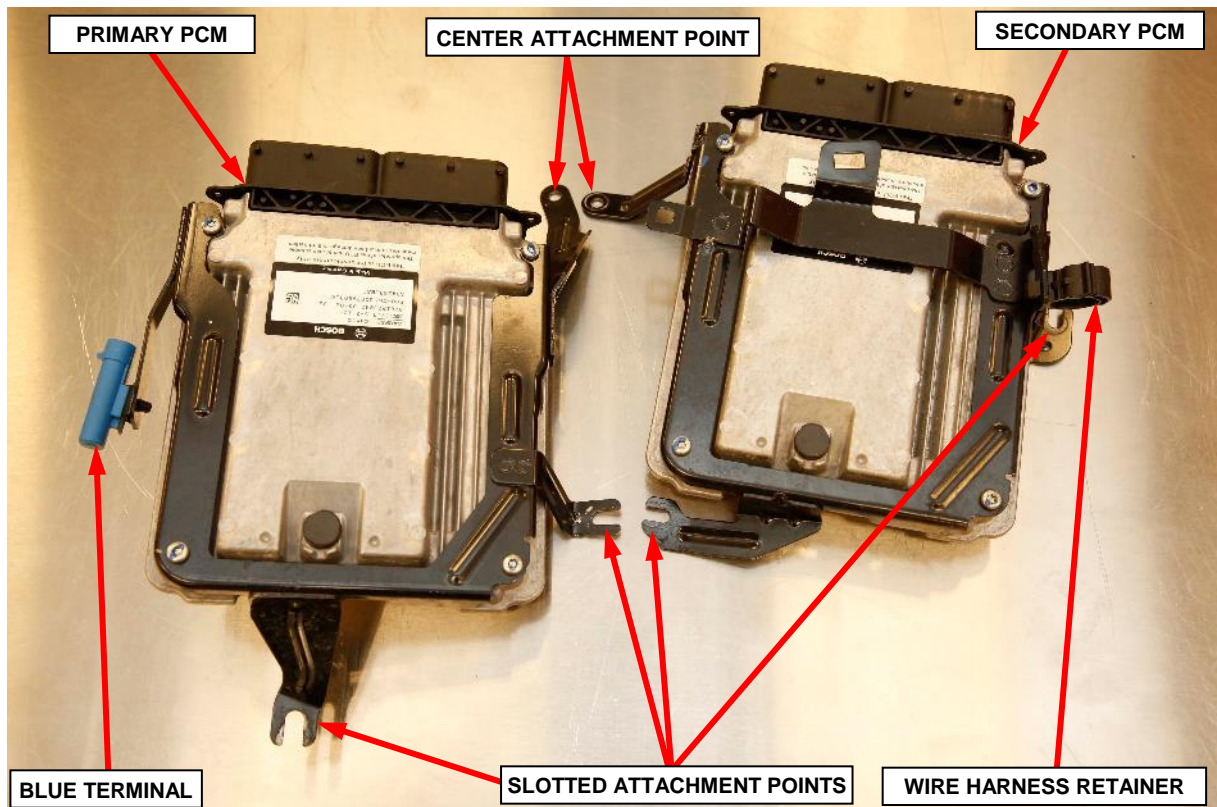

Figure 20 – PCM Brackets Attachment Points
NOTE: The PCM bracket center upper attachment point is the only nut that must be fully removed. All other PCM bracket attachment points are slotted so the nuts only need to be loosened, not fully removed from the attachment point studs (Figure 20).
8. Tighten all attachment nuts securing the PCM brackets to the cowl 9 N·m (80 in. lbs.) (Figure 20).